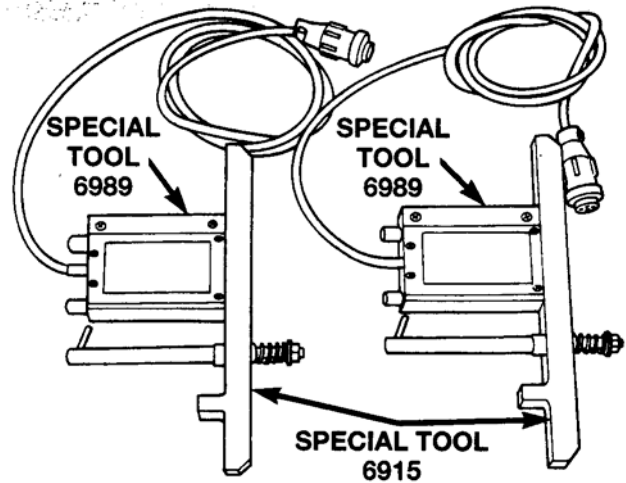

Figure 59
9. Transfer the inclinometers to the front Caster Angle Fixtures (Special Tool #6915) (Figure 59).